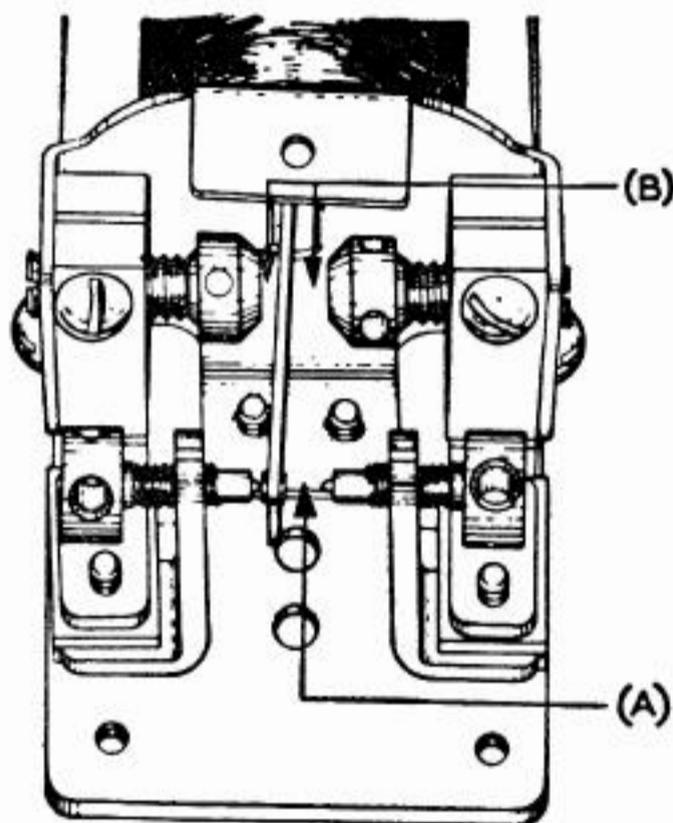

Fig. 104—231 Type Relay
1.06 **Contact Travel**—Fig. 104 (A): Min. .004", max. .006". Check travel on each contact screw. A difference indicates buildup on contact on side of armature having smaller travel. Remove buildup. 74D gauge.
1.09 **Magnetic Air-Gap—Fig. 104 (B)**